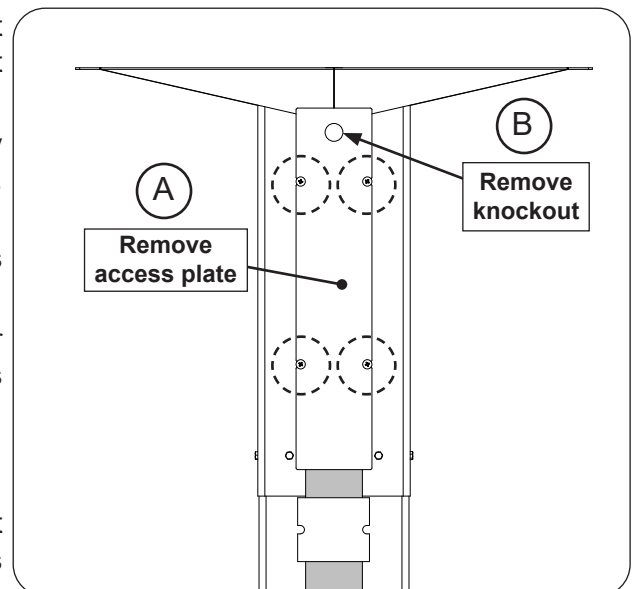

Fig. 31-2 Remove access plate and knock-out
2. Locate the rear access plate on the post base assembly and remove it by unscrewing the four Phillips-head screws. See Fig. 31-2, A.
3. Remove the knockout from the upper portion of the access plate. See Fig. 31-2, B.